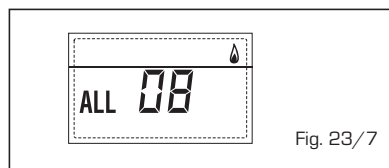

Fig. 23/7
**- WATER CIRCULATION ANOMALY ALARM 09 (fig. 23/8)**